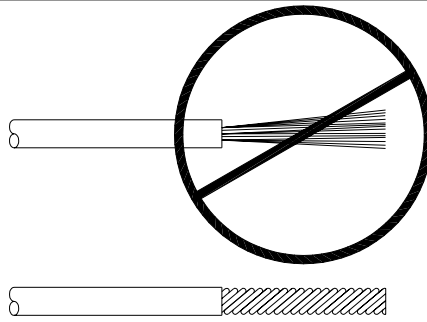

Figure 2-13: Proper Preparation of Wire Strands
2. You must twist the conductor strands together before installing the field wire into the terminal block (see Figure 2-13). We highly recommended that you tin the conductor strands as well.